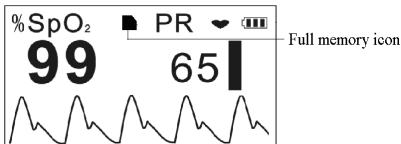

Figure 9 Memory Full
- During measuring, if the memory is full or the total number of the records is 256 pieces, the earliest records will be overwritten and the icon  will appear on the screen for prompt, as shown in Figure 9.